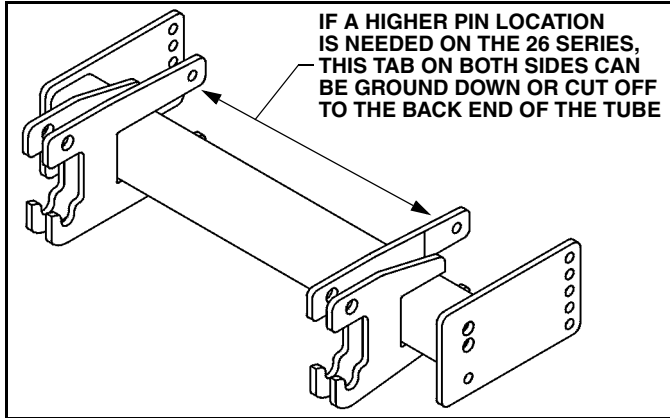

Figure 1
4. Attach (1) Side Weldment, LH (#2). Place the horizontal flange against the bottom of the frame rail, and align the slots in the Side Weldment with the tow hook holes. The front tab must clear the bumper mount studs on the front end of the vehicle frame. Using the existing bumper mount bolts, finger tighten the three bumper mount nuts. Next, insert (2) M12-1.75 x 60 mm Cap Screws (#9) with (2) 1/2" Lock
**NOTE:** If installing the 26 Series Plow and want to obtain a higher pin height, the top rear portion of the center lugs maybe ground off or cut flush with the back of the tube. (See Figure 1.)